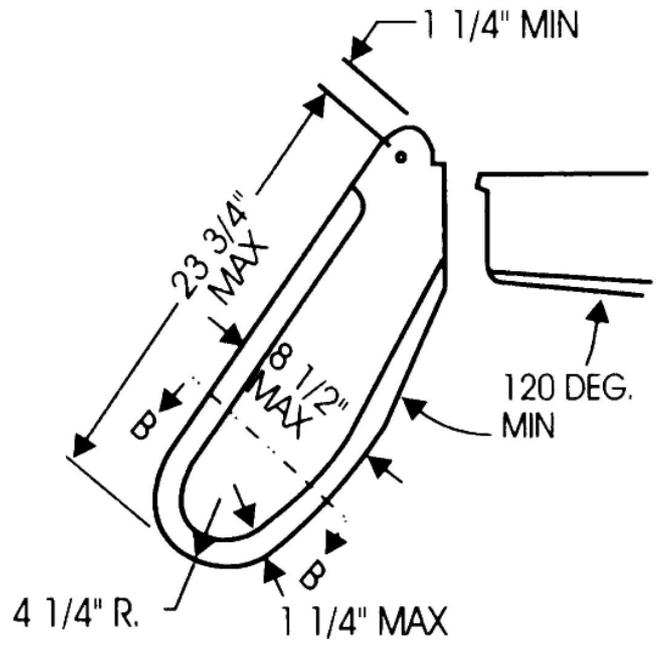

Figure 2
- 3.3.1** Subject to Rule 3.3, nothing herein shall preclude minor adjustments to the rudder by way of sharpening the trailing edge, rounding the leading edge, refinishing or repairing damage provided that the rudder has dimensions in accordance with the measurement diagram in Rule 5 Figures 2 & 5. Refinishing may include covering the rudder with fiberglass and/or resin.